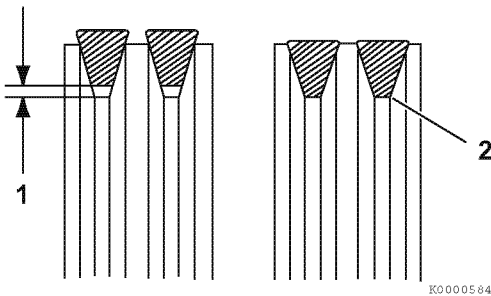

Figure 5-6
3. Tighten the V-belt to the proper tension. There must be clearance (**Figure 5-6, (1)**) between the V-belt and the bottom of the pulley groove. If there is no clearance (**Figure 5-6, (2)**) between the V-belt and the bottom of the pulley groove, replace the V-belt.